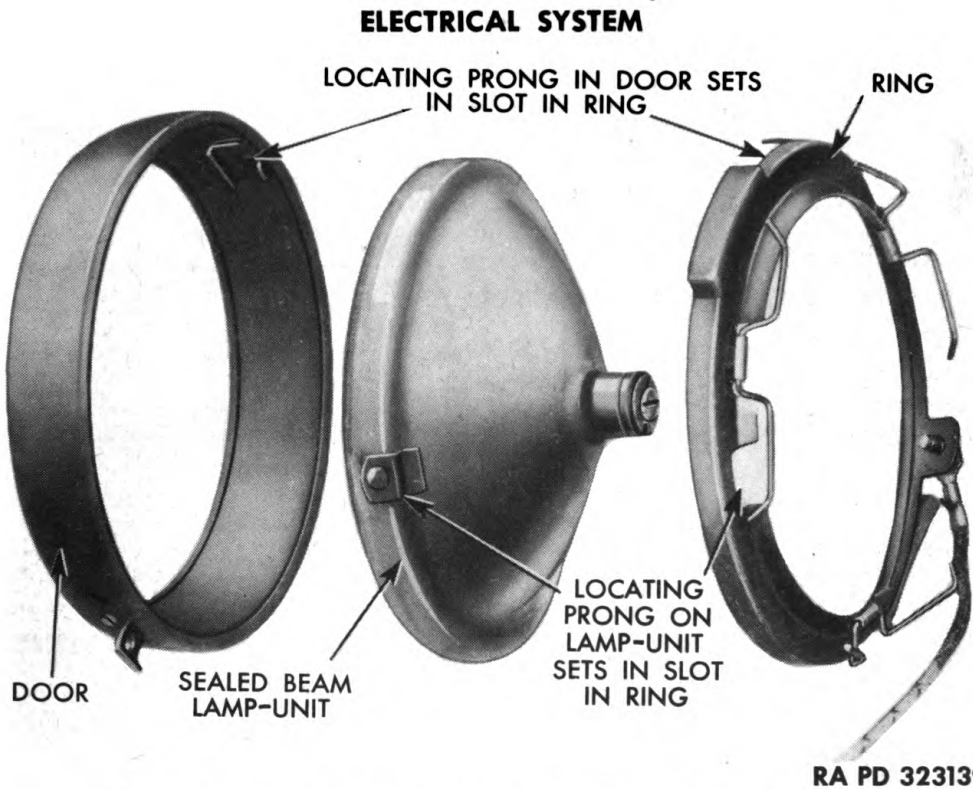

Figure 140 — Locating Points for Assembling Lamp Unit, Door, and Ring
(4) **INSTALL SEALED BEAM LAMP-UNIT** (fig. 140). Place lamp-unit in ring so that locating prong sets in slot in ring. Put assembly in light door so that slot in ring sets over locating prong in door (see fig. 140). Pry retaining springs under door flange. Connect wires to lamp terminal, and ground terminal in light body. Set lamp-unit assembly on body, and install attaching screw.